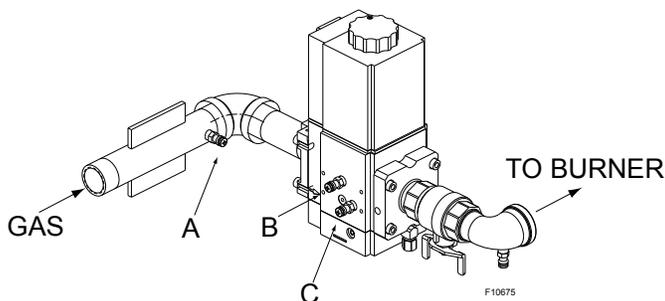

Figure 41. Gas Pressure Measurement Locations
2. Attach (1) 12" scale manometer to an upstream bleedle valve on the gas supply pipe to the heater. Measure point "A" in **Figure 41**.